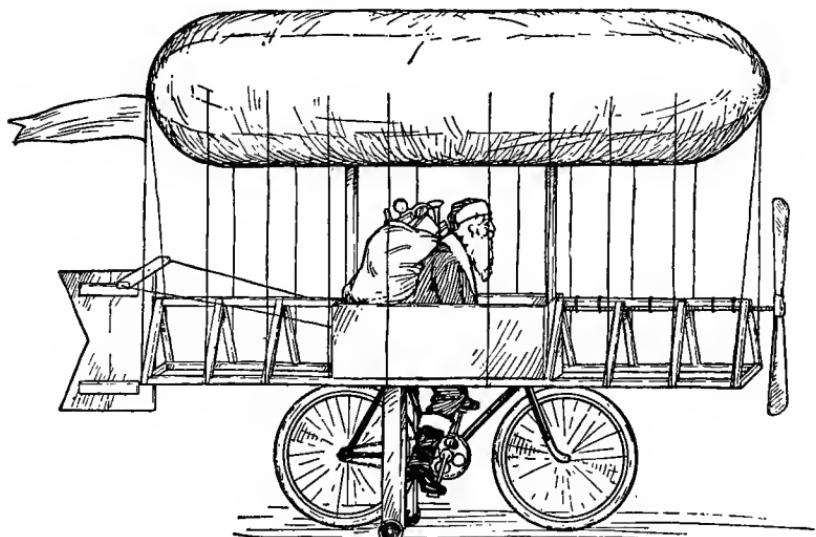
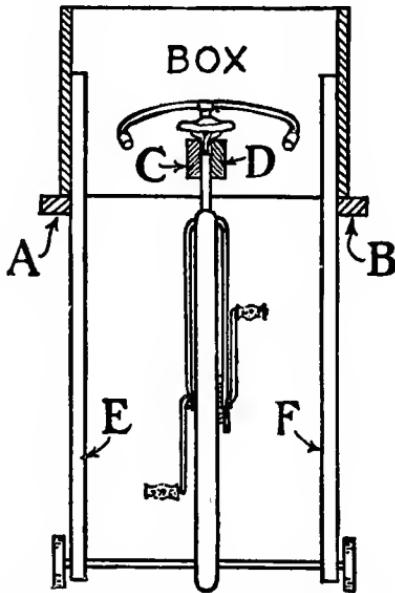

FIG. 333. — A Santa Claus Airship.
FIG. 334.—Section through Airship Car.
A brand-new way of introducing Santa Claus to an audience is to have him appear in a modern airship, instead of his old-fashioned sleigh drawn by reindeer. Figure 333 shows a novel scheme for
**The Car.** Remove the bottom boards of the box to be used for the airship car, and nail two poles 10 feet long, or four poles 5 feet long, to the bottom edges of the sides (*A* and *B*, Fig. 334), so the ends will project the same distance beyond the ends of the box. Then construct the wedge-
shaped framework shown in Fig. 333 upon these poles. The car is mounted upon the bicycle frame (Fig. 334). Fasten the two crosspieces *C* and *D* inside of the box, one either side of the bicycle frame, and then lash these cross-pieces to the frame with cord. The bicycle would be hard to balance after the balloon framework has been mounted .
above it, so it is necessary to fasten the *outriggers* shown in Fig. 333 on each side of the wheel. Any kind of small wheels will do for these outriggers. Nail uprights *E* and *F* (Fig. 334) to the sides of the box in line with the bicycle saddle, so their ends are about 1 inch above the ground, and fasten the wheels to them.
**The Propeller** (Fig. 337) has two blades cut out of thin wood, which are nailed to a block of wood cut similar to *S*. The center hole shown in block *S* is bored for the propeller shaft to fit in. As the airship will not travel fast enough to make the propeller turn by wind pressure, it is necessary to fasten a crank upon the end of the propeller shaft, as shown in Fig. 337, so Santa Claus can turn it as he "flies." Cut a hole through the front of the car for the crank end of the propeller shaft to stick through, and make the shaft of just the right length so Santa Claus can reach the crank handily. Bind the shaft to the under side of the bow framework of the airship with cord, as shown in Fig. 333, but leave the cord loose enough so the rod will turn easily.